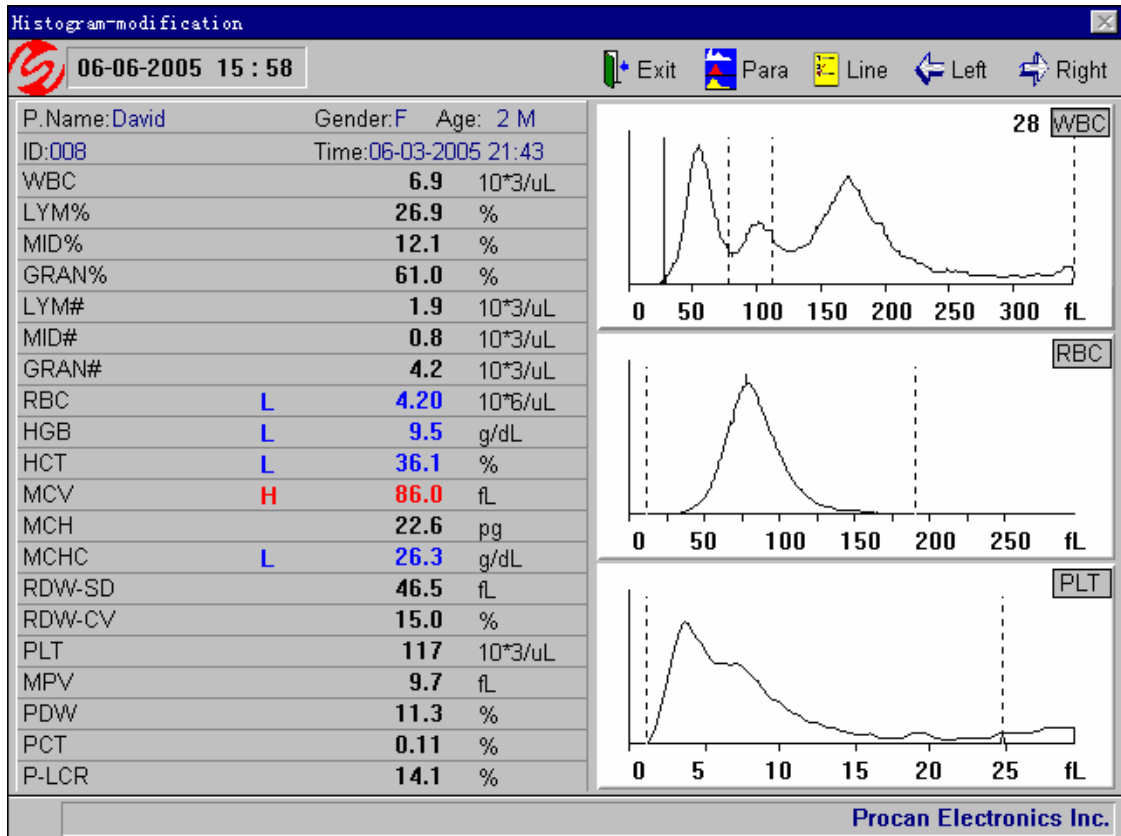

Figure 3-2
- a) In the blood cell analyzer window, select “**Histogram**” in menu. The instrument accesses histogram adjustment window, as shown in figure 3-2. Press “**Para**” button to adjust the histogram.